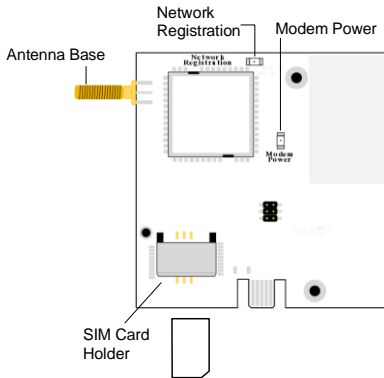

Figure 19. Add-on's front side
1. Insert the SIM card to the SIM holder: hold the SIM card so that the metal contacts are facing down, and the notch is aligned correctly, as shown in Figure 19, above.